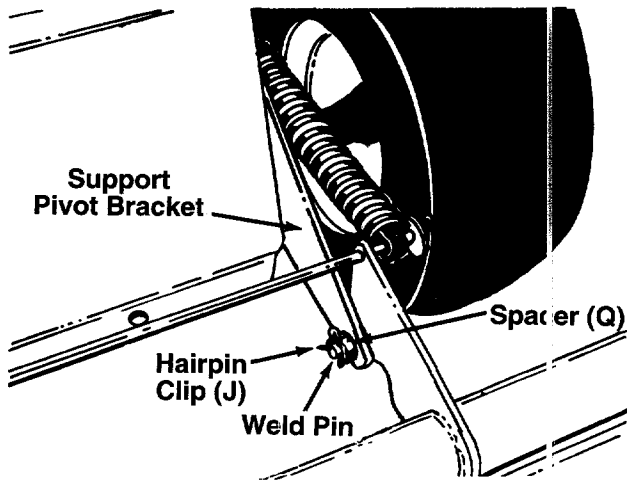

FIGURE 8.
16. There is a weld pin on the front of the tiller on the right hand side. Push the tiller forward, then to the left so the weld pin goes through the bottom hole in the right hand pivot support bracket. See figure 8. ←
17. Secure the weld pin using flat washer (D) and hairpin clip (J).